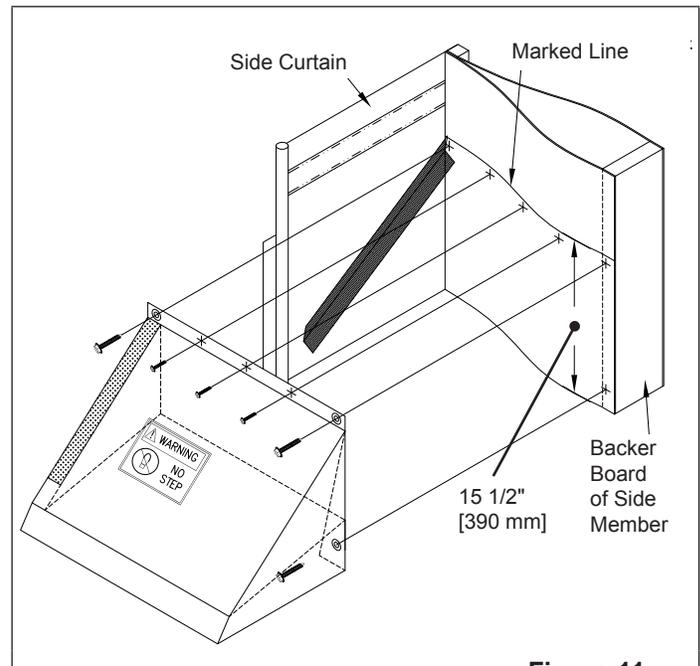

Figure 11
Add (3) of the self-piercing #12 x 3/4" hex hd screws down the center of the 1-1/2" [38 mm] fabric strip that is located along the top edge of the draft pad (as shown). Attach draft pad Velcro to side curtain (Figure 11).